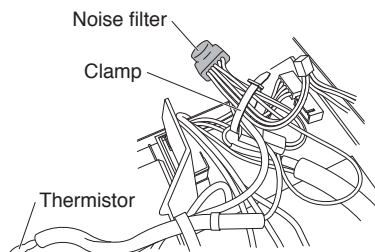

**Fig. 4a**
- (7) Feed the wire harness that was included in the wired remote controller package into the right lower rear of the unit and route it to the component box. (Fig. 4a)
- (6) Feed the wire harness that was included in the wired remote controller package into the right lower rear of the unit. (Fig. 4a)